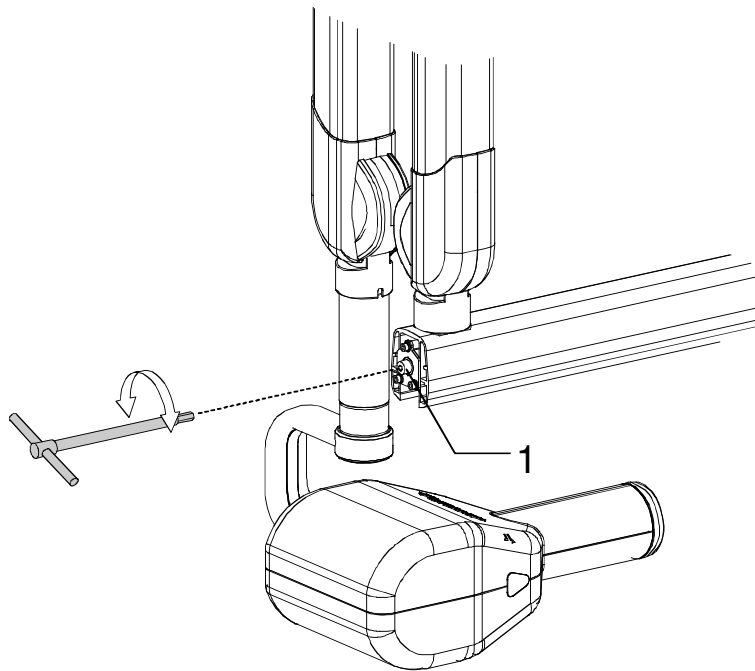

Figure 7-2
2. Adjust the frictioning mechanism (**1** - Figure 7-2) using a 5 mm hexagon wrench checking the rotation of the scissors arm.